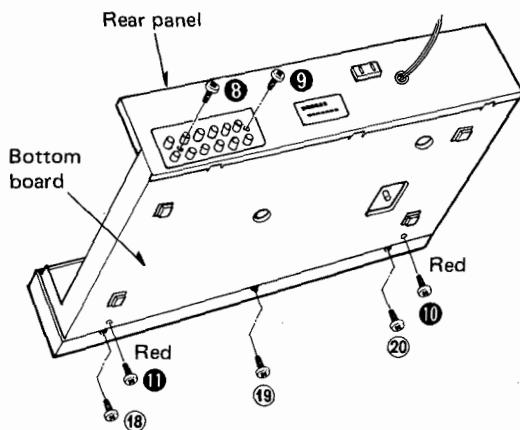
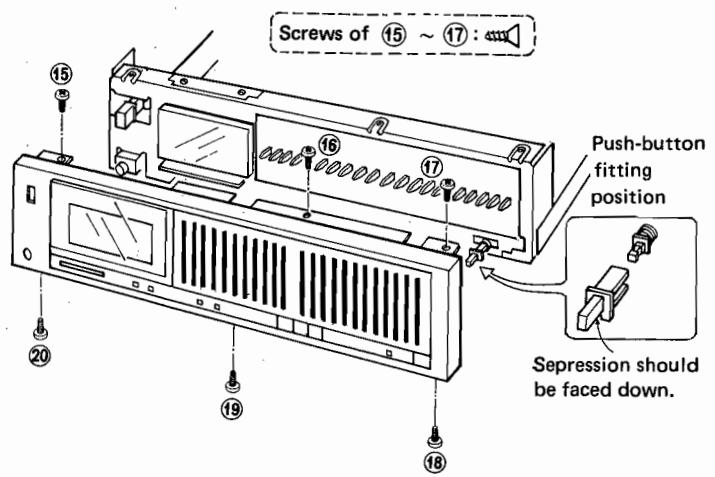

Fig. 2
Fig. 8
2. Remove the screws (Fig. 2: ⑧ ~ ⑪) of the rear panel and the bottom board.
2. Remove screws ⑯ ~ ⑳ as in **Fig. 8**. (For screws ⑯ ~ ⑳, See **Fig. 2**.)
1. Remove the front panel. (See **Fig. 8.**)